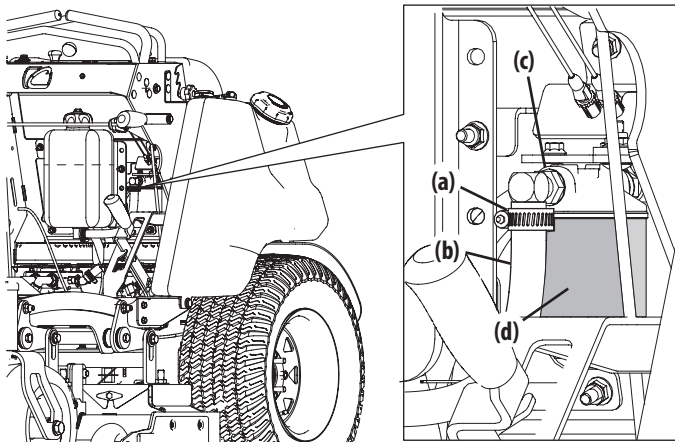

Figure 27
2. Loosen the hose clamp (a) securing the transmission oil hose (b) to the transmission oil filter assembly (c) (Figure 27 on page 23).
5. If necessary, perform the following to replace the oil filter (Figure 27 on page 23):
7. Tighten the hose clamp (a) securing the transmission oil hose (b) to the transmission oil filter assembly (c) (Figure 27 on page 23).